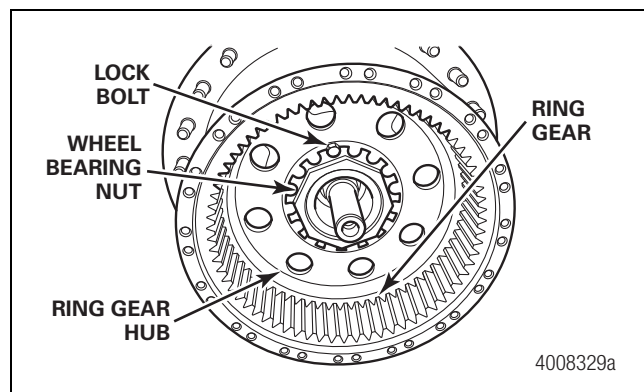

Figure 7.4
5. Remove the ring gear assembly from the spindle. Figure 7.4.